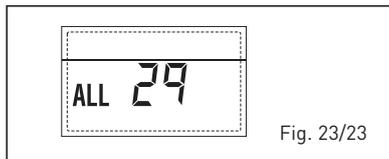

Fig. 23/23
**- ANOMALIE SONDE RETOUR CHAUFFAGE "ALL 30" (fig. 23/24)**